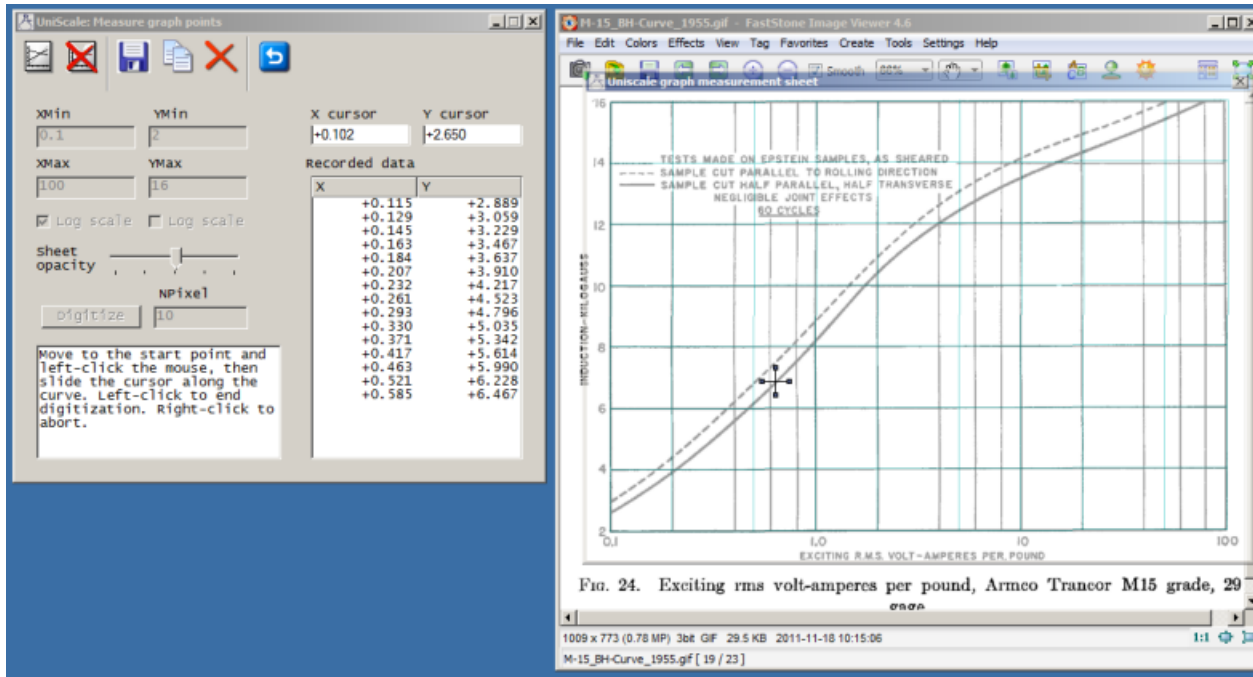

Figure 6: Calibration setup for a graph with a logarithmic axis, digitization in progress.
- Use the check boxes if the graph contains one or more logarithmic axes (Fig. 6). In this case, values in the XMin-XMax and/or YMin-YMax boxes must be greater than 0.0.
- To digitize curves like the one in Fig. 6, push the **Digitize** button. Then move the cursor to the start point of the curve on the locked measurement sheet. Click the left button and slide the cursor along the curve. Values appear in the **Recorded data** list box. When you reach the end of the curve, be sure to left or right-click the mouse to terminate the digitization process. The value in the **NPixel** box is the approximate distance in pixels along the curve between points. Lower the number to record more points.